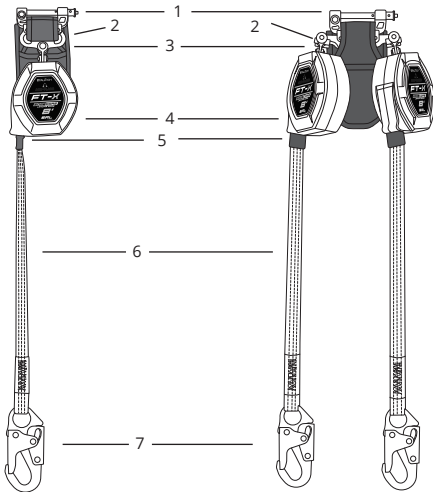

Figure 2 - About the FT-X™ EdgeCore™ Arc Flash Class 2 Leading Edge SRL-P
As shown in Figure 2 below, the FT-X EdgeCore Arc Flash has a nylon housing that contains a synthetic lifeline wound onto a spring tensioned drum. The FT-X EdgeCore Arc Flash lifeline is equipped with a lifeline stop and a leg-end connector. When the user is attached, the lifeline extends and retracts with the user movement, automatically maintaining taut lifeline. If a fall occurs, a centrifugal pawl system engages, stopping the lifeline payout. In a fall event, the SRL-FBH Connector will break away from the Shear Connector, and the integral Energy Absorber (EA) will deploy, gradually slowing and arresting the fall.